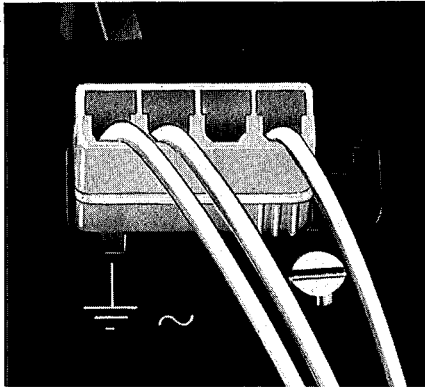

Fig. 3
B. No. 209 458; APM-No. 42 859/1 (Fig. 3) for 4-pole power supply plug